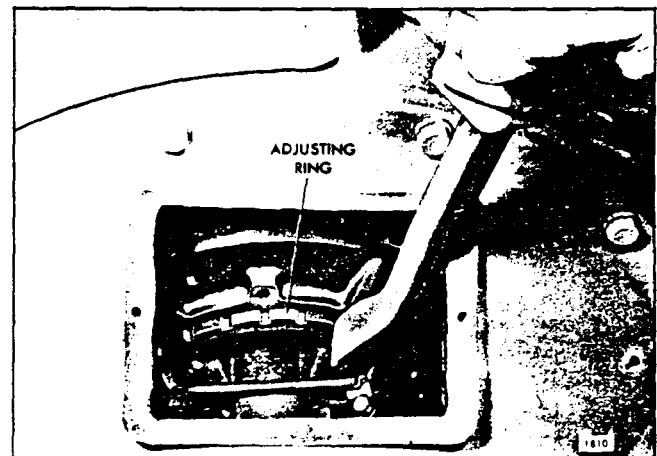
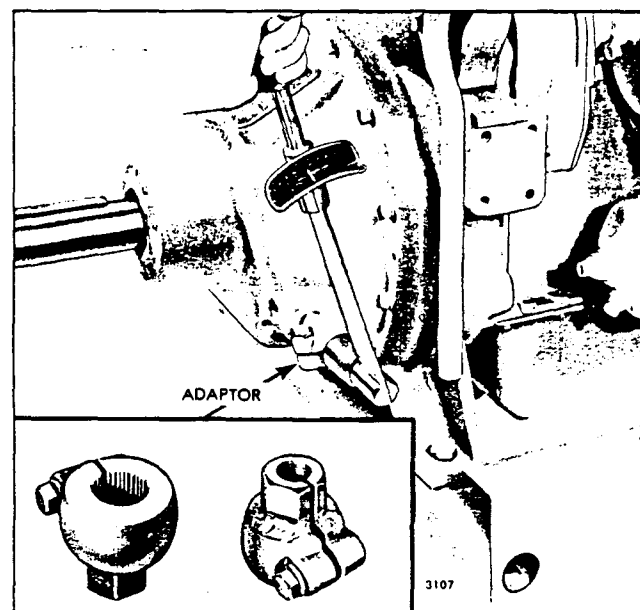

Fig. 6 - Adjusting Clutch
Fig. 7 - Checking Clutch Adjustment with a Torque Wrench and Adaptor
3. Remove the clutch adjusting ring spring lock screw and lock from the inner clutch pressure plate and adjusting ring. Then, while holding the clutch drive shaft to prevent the clutch from turning, turn the clutch adjusting ring counterclockwise (Fig. 6) and tighten the clutch until the desired pressure on the outer end of the hand lever, or at the clutch release shaft (Fig. 7), is obtained (Table 1).
A suitable spring scale may be used to check the pounds pressure required to engage the clutch. However, a more accurate method of checking the clutch adjustment is with a torque wrench (Fig. 7).
To fabricate an adaptor, saw the serrated end off of a clutch hand lever and weld a 1-1/8" nut (across the hex) on it (Fig. 7). Then, saw a slot through the nut.